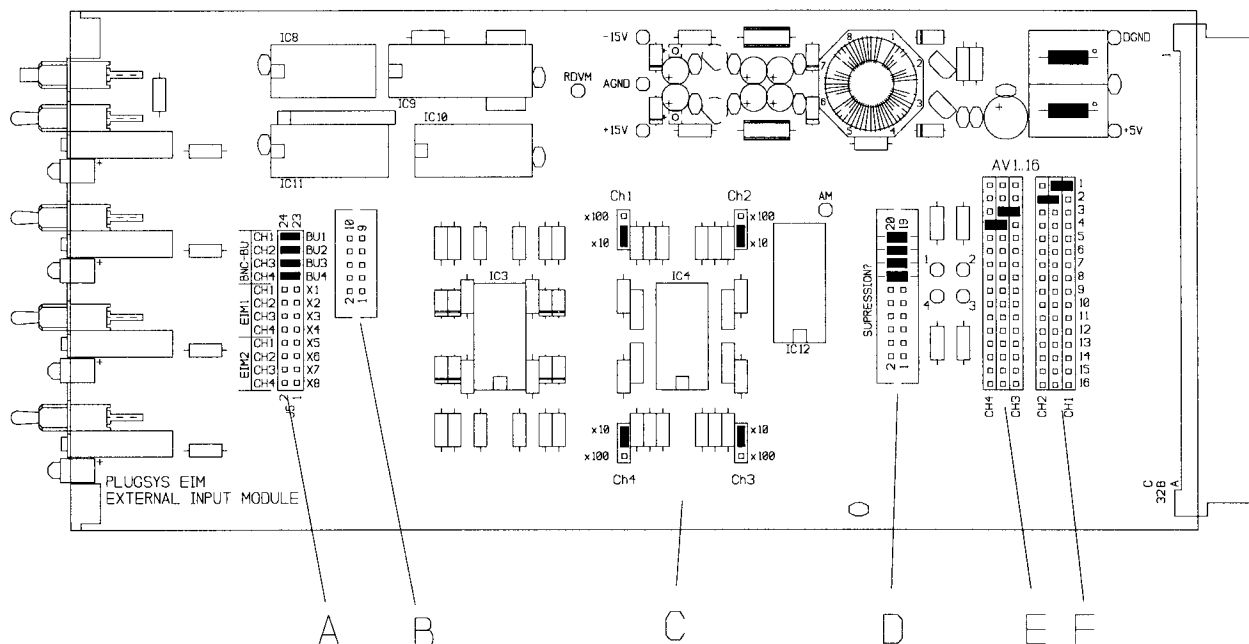

Fig. 5: Jumpers on the circuit board.
(1) Assignment of the links J5 (Fig. 5 A)
These jumpers determine the connection of module EIM-B (BNC sockets) to module EIM-A (Adjust). The setting shown in Fig. 5 applies to a front-mounted module EIM-B. In this configuration the module EIM-B is linked through a ribbon cable to the connector (Fig. 5 B). For a rear-mounted EIM-B these jumpers have to be placed on the pins marked X1 - X8. Either one or two EIM-B modules can be installed on the back of the rack housing. Connection to them is made through the so-called X-lines of the system bus. Only 8 of these lines are available. The X-lines must also be configured on the extra card for rear installation.
- (2)** Jumpers for the gain settings x10, x100 on the individual channels (Fig. 5 C). The module is normally supplied from the factory with these jumpers set to x10. The jumpers can be changed over to x100 if necessary.
- (3)** Jumpers on the connector for the suppression module (Fig. 5 D). If the suppression module is not connected up, the four jumpers must be set as shown at Fig. 5 D. If the suppression module is fitted, these four jumpers have to be removed in order to obtain space for the connector to this module. The 20-pin connector of the suppression module (EIM-S Type 673/1) is then fitted in place of the jumpers. (Note: observe the correct polarity! The "1" of the connector is marked with an arrow !)
- (4)** Jumpers for the signal outputs of the channels 1 to 4. Assignment of each of the output signals CH1 - CH4 to one of the analogue channels AV1 to AV16 of the system bus. Note that it is the centre pins which make the connection to the PLUGSYS bus. The setting shown in Fig. 5 E and F switches channel 1 (CH1) to the analogue bus line AV1. CH2 on AV2, CH3 on AV3 and CH4 on AV4.
- check jumpers to Fig. 5 **E** and **F**. None of the AV lines must have two inputs.